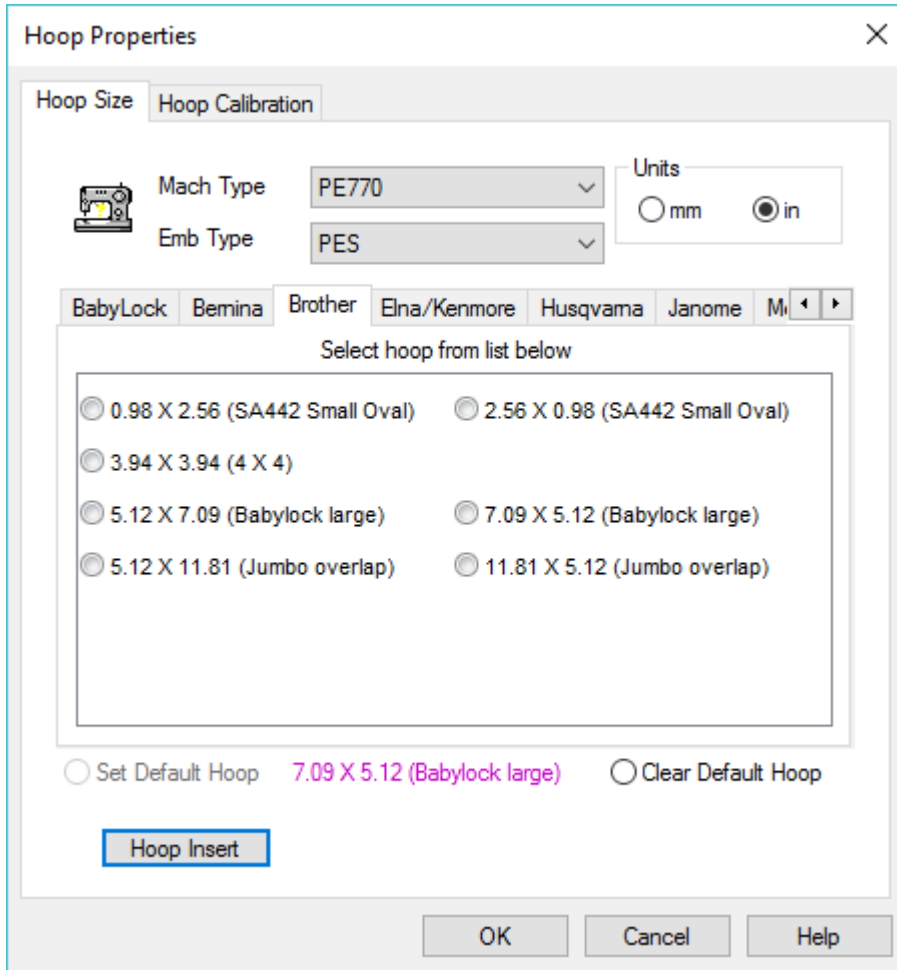

Figure 1 Dialog displayed by clicking the "Hoop Size" tab
- The tabs allow you to display the available hoop sizes for various embroidery machine manufacturers. In Fig. 1, the manufacturer "Brother" has been selected by clicking on that tab. Use the horizontal scroll buttons (to the right of the tabs) to find a manufacturer if it is not displayed. The list of hoops for that manufacturer *and* the selected machine type will be displayed in the list box. In Fig.1, the selected machine type is the Brother "PE770". You can use the optional vertical scrollbar (to the right of the hoop list) to display the complete list of hoop sizes. Select the desired hoop size by clicking on the radio button beside the hoop description. Your selection will be highlighted and can be altered at any time before you close this dialog by clicking on a different hoop size. Once you have selected the desired hoop size, you may also set this to be the default for your machine by checking the *Set Default Hoop* button. This is the hoop that patterns without internal hoop information will open into, or **all** patterns if the File Options *Use Default Machine Hoop* button is also checked. The embroidery file types supported by this manufacturer can be seen by scrolling